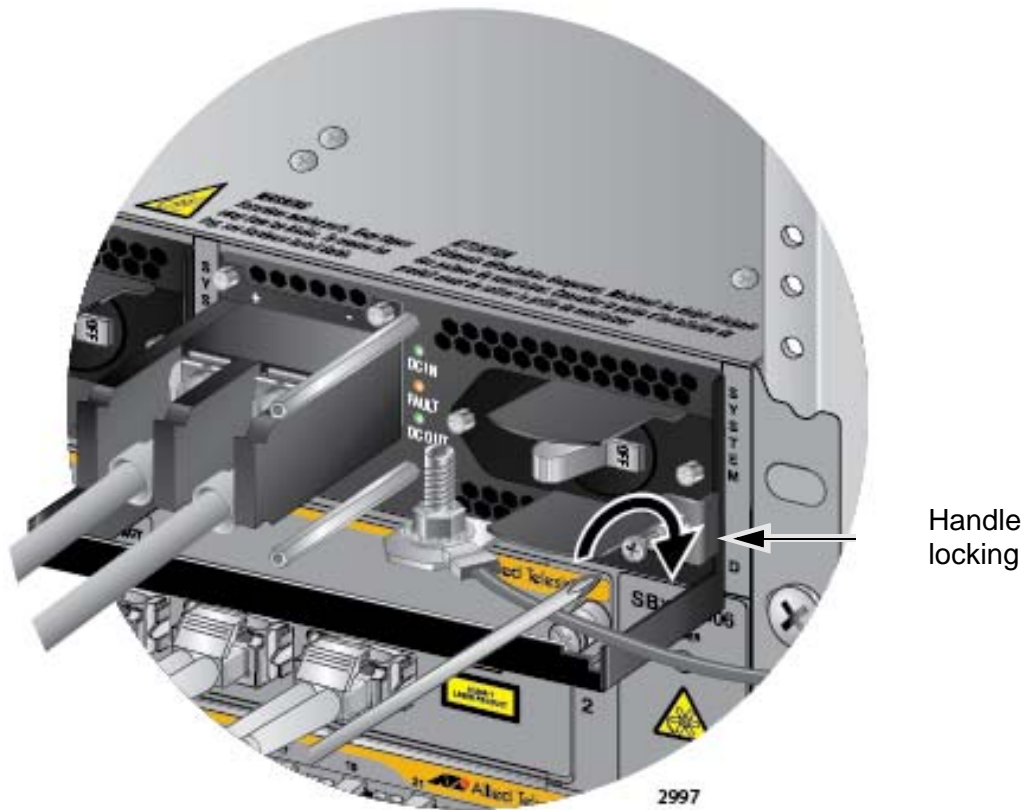

Figure 156. Tightening the Handle Locking Screw
8. With a #2 Phillips-head screwdriver, tighten the handle locking screw to secure the power supply to the chassis. See Figure 156 on page 232.